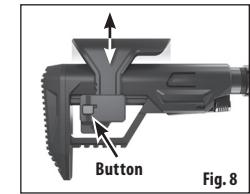

Fig. 8
- Push in the cheek piece adjustment button from the right side (Fig 8).